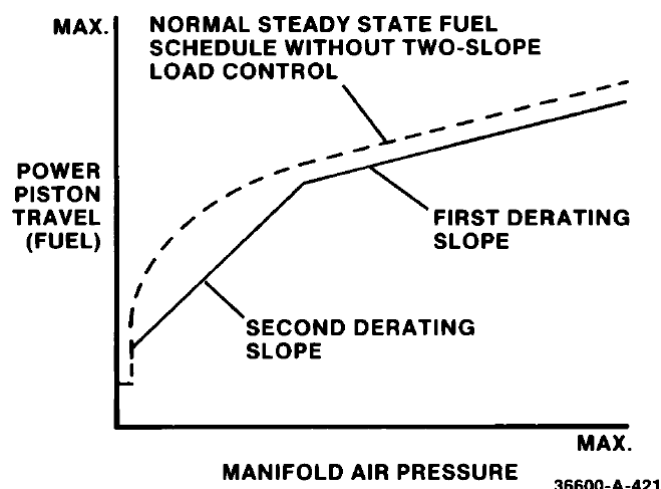

Figure 1-5. Typical Two-Slope Load Derating Curve
The two-slope load control bias linkage biases the basic load control system and reduces the load on the engine as a function of manifold air pressure. The governor reduces engine fuel to provide a proper fuel/air ratio for efficient burning. Figure 1-5 illustrates a typical two-slope load biasing (derating) curve. Note in Figure 1-5 derating occurs along two different slopes which generally parallel the normal power (load) curve.
Figure 1-5 shows the derating slope to be more acute along the lower one-third of the normal power curve than along the upper two-thirds. This is due to the different ratios of bias lever movement transmitted through the derating adjustment screws to the load control floating lever.
21. Regulate air pressure to specified (higher) value of manifold air pressure where derating along the first slope is to begin (see Figure 1-5). Position power piston at specified travel corresponding to that air pressure.